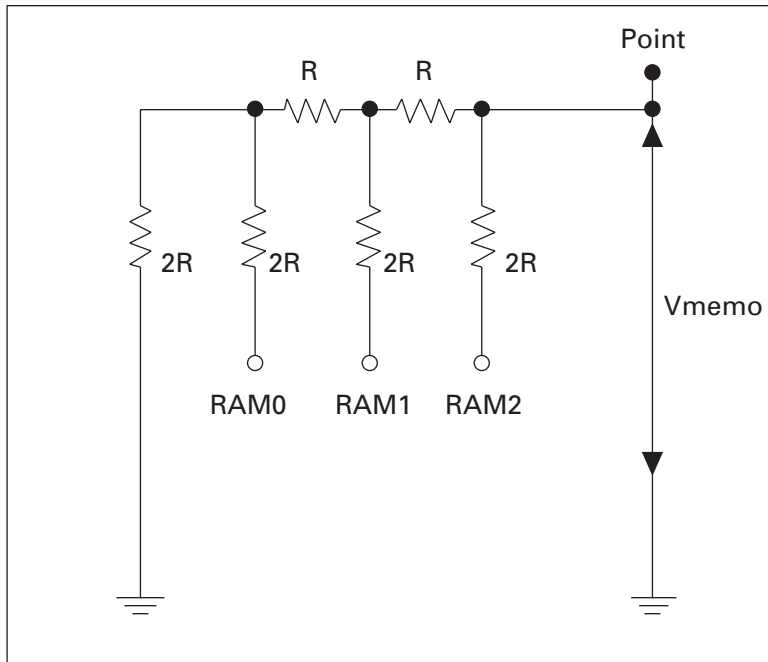

Fig.1
*About the usage of jig, refer to Fig. 1.